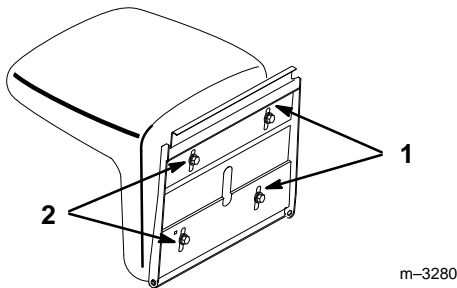

Figure 10
1. To adjust, tip seat forward and loosen the seat mounting bolts (Fig. 10).